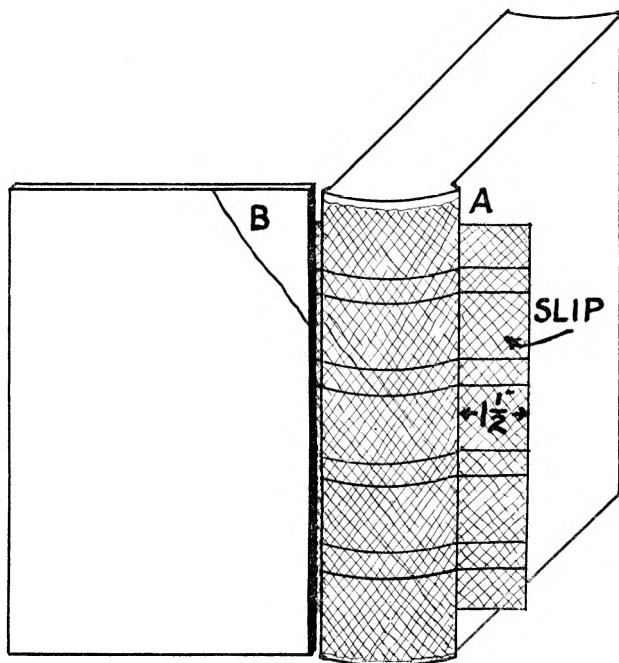

Fig. 90
17. Cut the split-boards to size. Make them exactly the same length as the book from head to tail and the same width as the book from groove to fore-edge. See that the "split" is next to the groove and that the thin board is on the *inside* next to the book. Mark the boards as at B in fig. 90, so that they can be replaced in their correct position when required.
PREPARING THE SLIPS. 21. Cut off the waste sheet, to which the tapes and mull are stuck, so that a slip of $1\frac{1}{4}$ " to $1\frac{1}{2}$ " wide is left at the hinge, fig. 90. This is the slip that is inserted into the split-board. In order to allow for the turning-in of the leather at the back, cut away $\frac{3}{4}$ " of the slip at the head and tail, as at A in fig. 90. Care should be taken not to cut the sewing thread or the tapes.